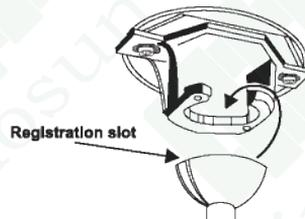

Fig.5
Step 7. Place the downrod ball into the hanger bracket socket. This will allow you to make the electrical connections. (Fig.5)